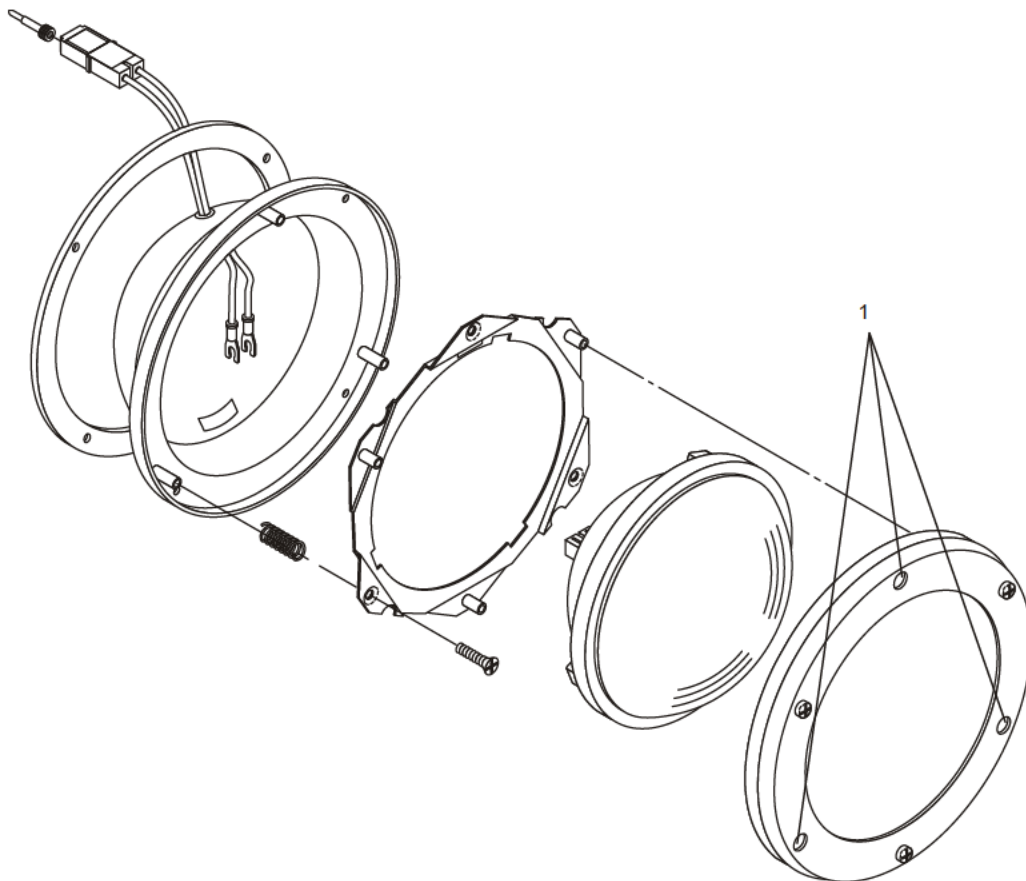

Figure 5-3: Adjustment of Roof Headlight
- b. Locate adjustment access holes (1, Figure 5-3) on roof headlight bezel.